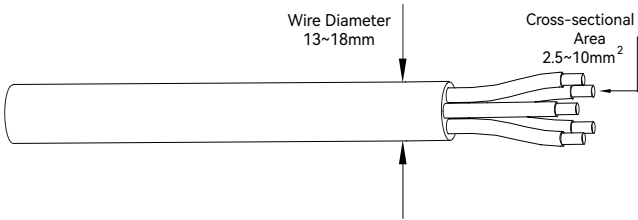

Figure 5-4
- ② According to the figure 5-4, select an appropriate cable, peel the insulation sleeve of AC cable off for 50mm, and peel off the end of 3L / PE / N wires for 8mm.